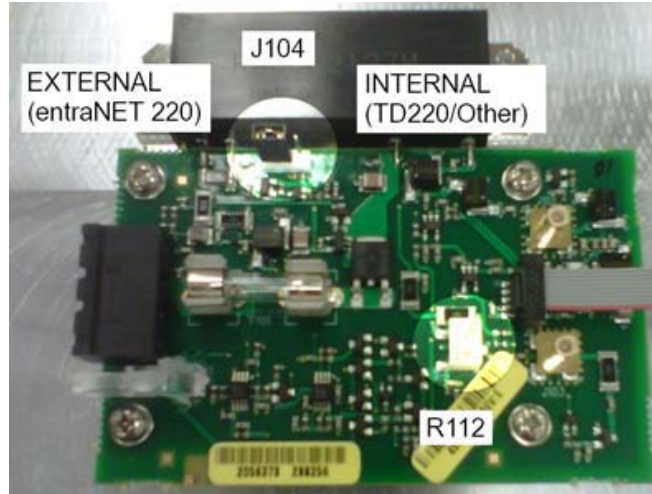

Figure 1 – J104 and R112 Locations
3. For use with SD1 transceiver follow these sub-steps, PWR set between 23-27 dBm (input power). Do not use above 27dBm for GPA-1 input. Move Jumper J104 to the Internal Keying position as shown in Figure 1 Access to J104 is available through a top cover vent slot.